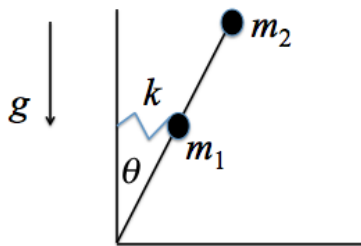

Figure P1.90
- 1.90** A pendulum of negligible mass is connected to a spring of stiffness k at halfway along its length, l , as illustrated in Figure P1.90. The pendulum has two masses fixed to it, one at the connection point with the spring and one at the top. Derive the equation of motion using the Lagrange formulation, linearize the equation and compute the systems natural frequency. Assume that the angle remains small enough so that the spring only stretches significantly in the horizontal direction.